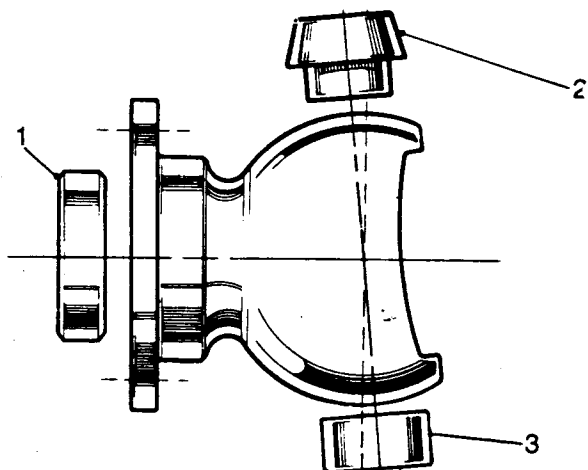

Fig J1.52
- (2) Refer to Fig J1.52. Press the roller bearing (1) for the axle half shaft into the swivel pin bearing housing. Press the Railko bush (2) into the top of the bearing housing, and the taper bearing outer race (3), wide edge first, into the bottom of the housing. Take care to correctly identify the bush and bearing locations, noting that the top of the housing is narrower, as illustrated.
- (3) Place the taper roller bearing in position in the bottom of the swivel pin bearing housing, and locate the bearing housing into the swivel housing.